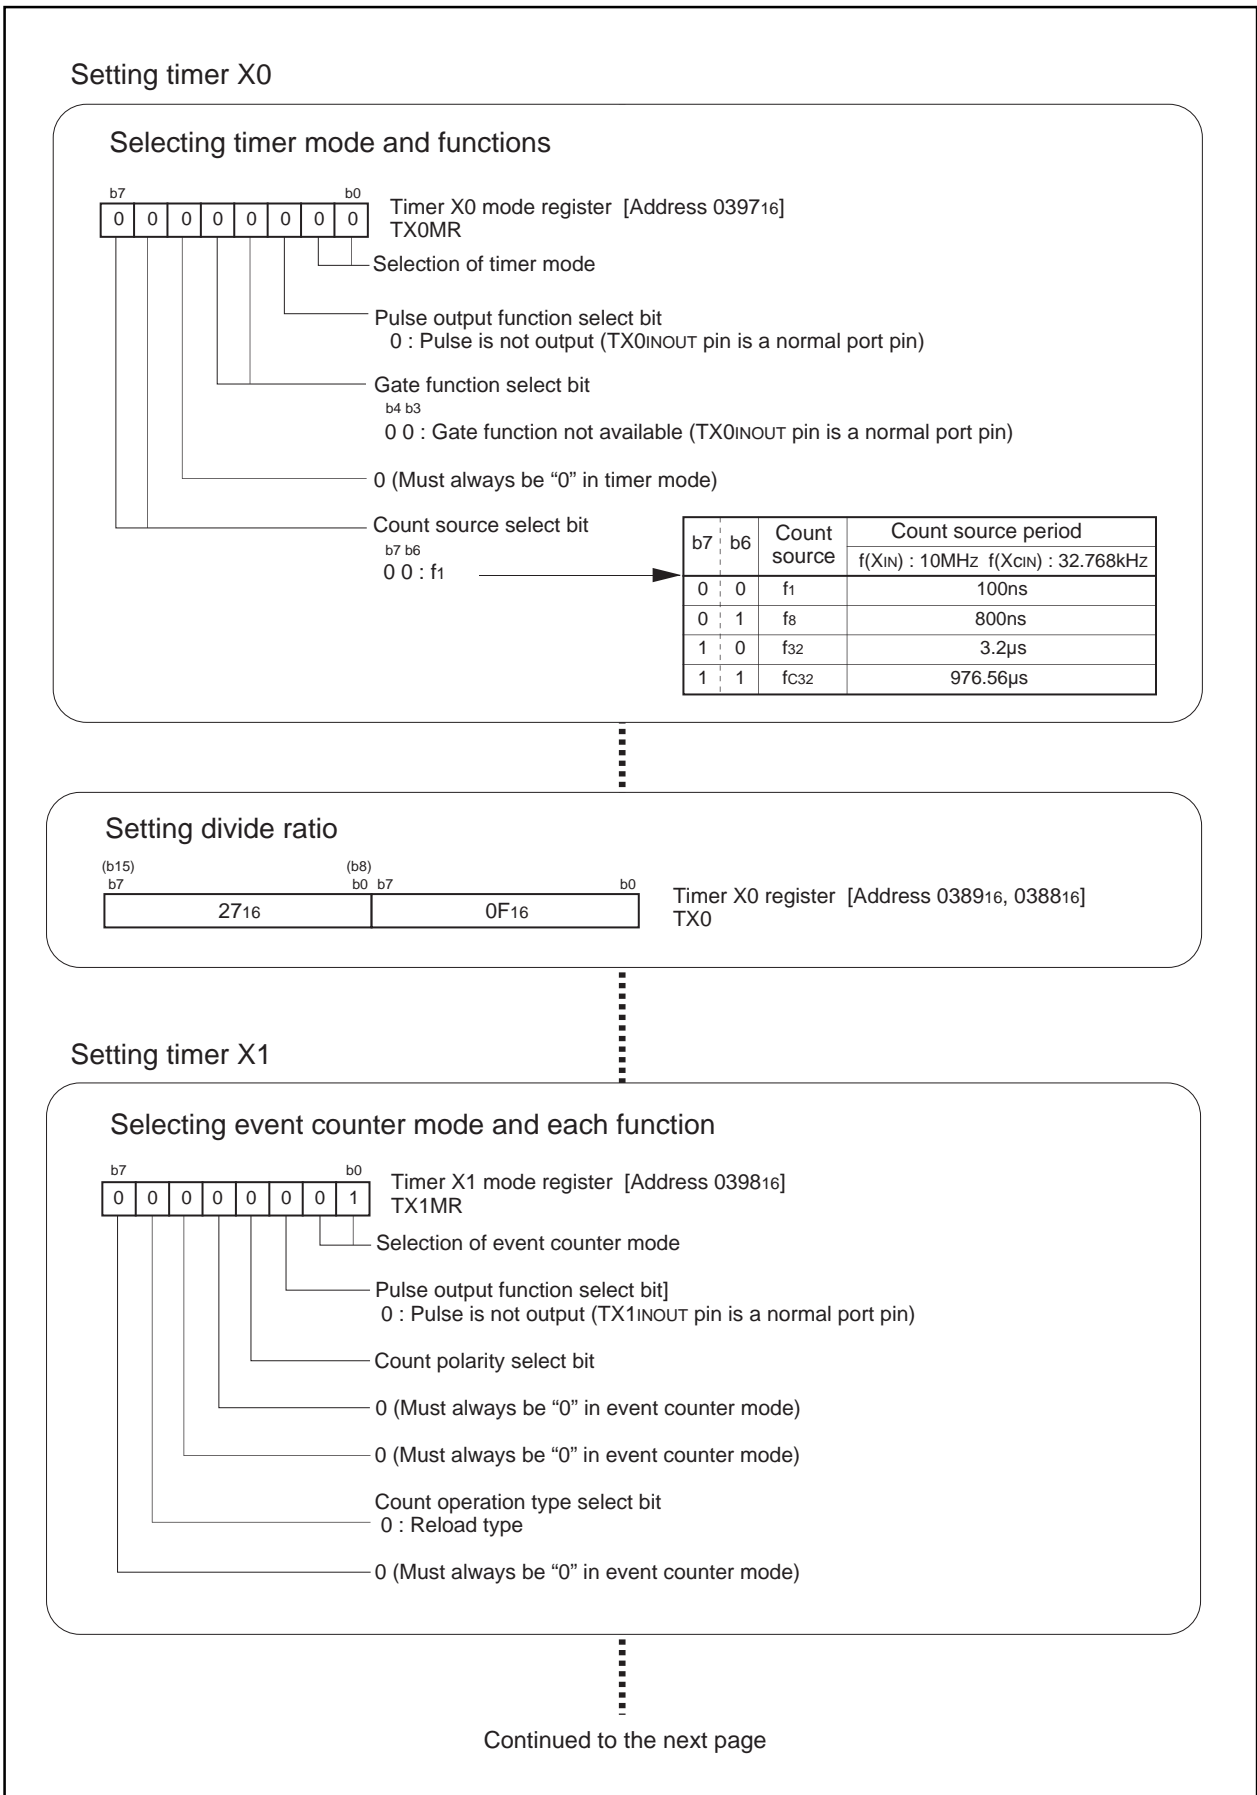

Figure 3.1.3. Set-up procedure of long-period timers (1)
**Overview** In this process, Timer X0 and Timer X1 are connected to make a 16-bit timer with a 16-bit prescaler. Figure 3.1.1 shows the operation timing, Figure 3.1.2 shows the connection diagram, and Figures 3.1.3 and 3.1.4 show the set-up procedure.